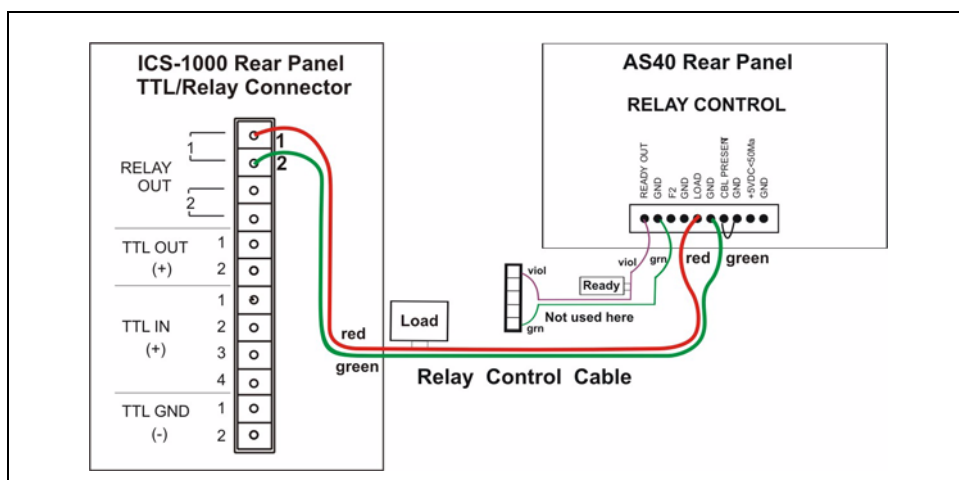

Figure B-44. Example AS40 Autosampler Connection
8. Connect the relay control cable's 10-position connector plug to the **RELAY CONTROL** connector on the AS40 rear panel (see Figure B-44).
9. Plug the 12-position connector plug into the TTL and relay connector on the ICS-1000 rear panel (see Figure B-44). Make sure the red wire connects to position 1 and the green wire connects to position 2.